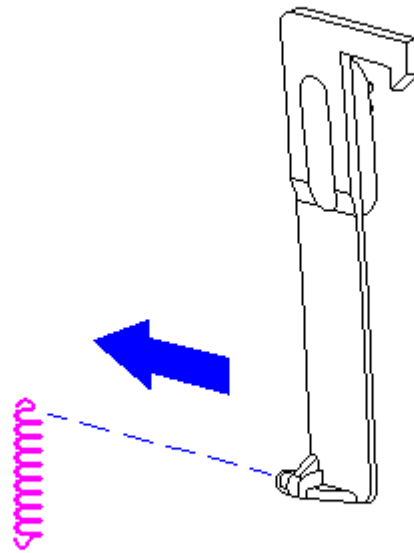

Figure 3-81. Removing the Display Latch Spring from the Latch (Models 400 and 410)
6. Remove the display latch spring from the latch (Figure 3-81).